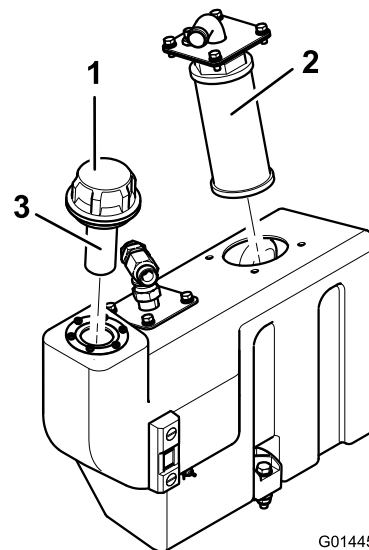

Figure 76
1. Remove the oil tank suction flange to gain access to the suction strainer (Figure 76).
2. Unscrew and remove the strainer and clean with paraffin or petrol before installing (Figure 76).